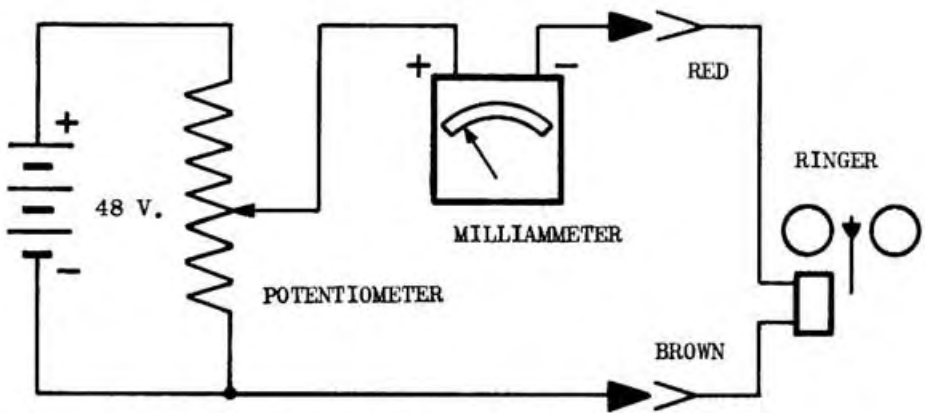

Fig. 13. Bias Adjustment
a. The recommended method of checking the bias adjustment is the current flow test. This requires a variable source of d-c voltage and a milliammeter. The potentiometer connected across a 48 volt battery will provide a variable d-c voltage. Make sure the bias-spring is in the low-bias position. Connect the ringer, milliammeter and potentiometer to 48 volt battery as shown in the diagram (Fig. 13). The ringer should be mounted in the telephone for this test.